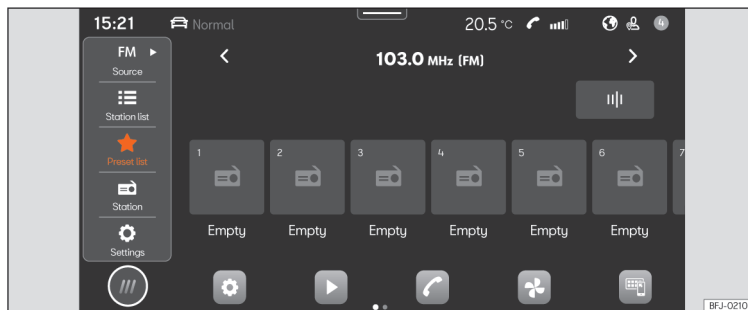

Fig. 155 Schematic representation: Radio view
- Press **HOME** > **☰** >>> **Fig. 155**.